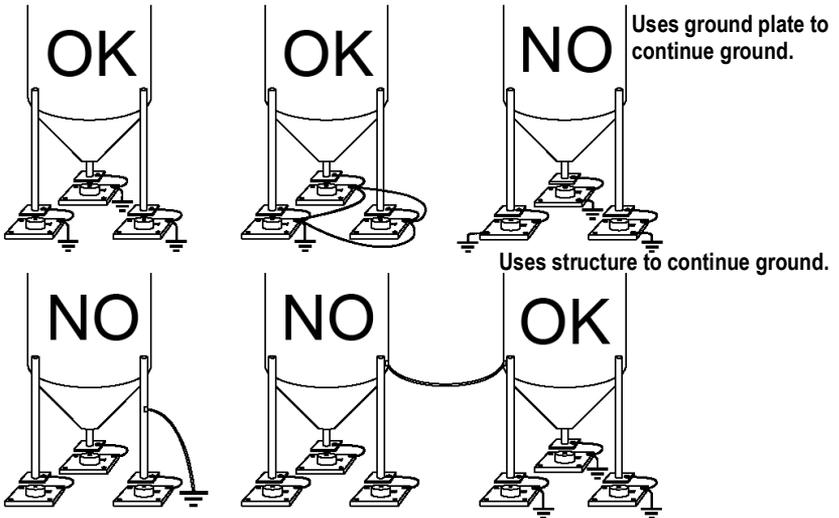

Figure 1-1. Installation Recommendations
**WARNING: Do not ground the system with metal parts from the weighing structure** (see Figure 1-1).